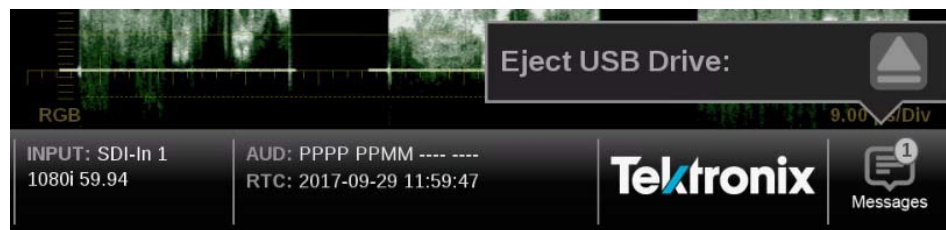

Figure 21: Message center popup window
2. Select the **Messages** icon to view the messages or devices mounted to the instrument. (See Figure 21.)